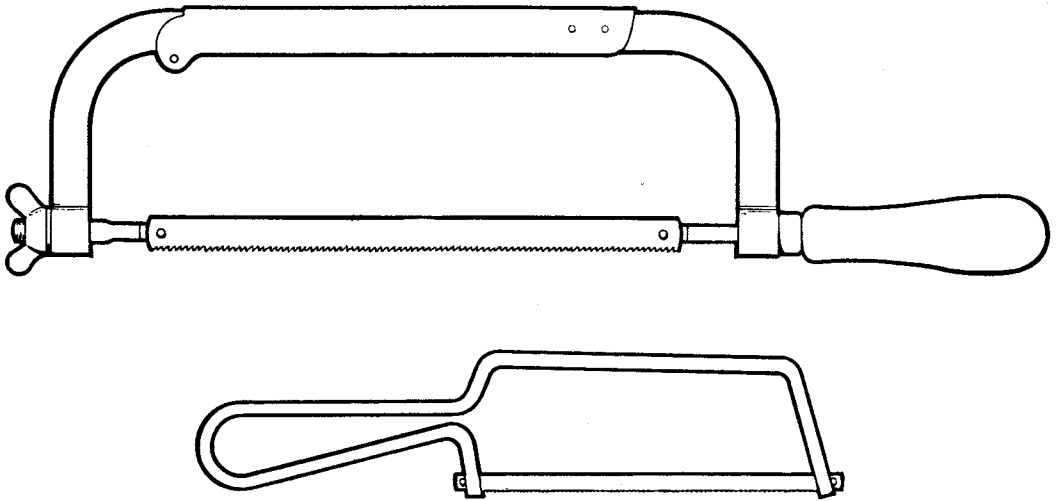

Fig. 20 Hacksaws
21. **Hacksaws.** A hacksaw is used for cutting material to approximate size. It consists of a frame, classified by length, to which the saw blade is fitted with the teeth pointing away from the handle (Fig. 20). The blade can be turned at right angles to the frame to enable long narrow strips to be cut from a sheet of material. The blade should be tensioned so that it gives a slight ring when flicked with the thumb.